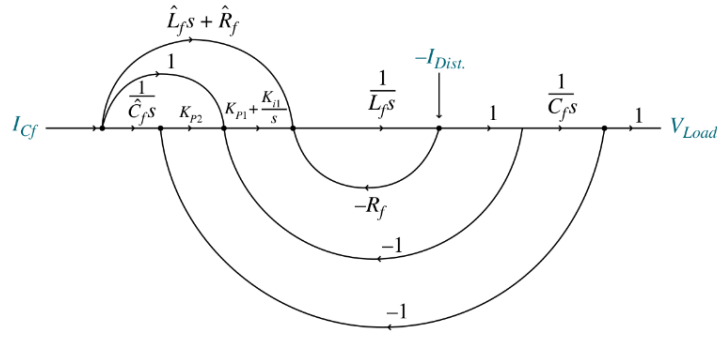

Figure 3: Hybrid solar cell and diesel power distribution system.
A model for Hybrid solar cell and diesel power distribution system proposed as shown in Figure 3, The system has been shown to have a very good uninterruptible power supply as well as line voltage regulation capabilities. The output V_{Load} , is the voltage across the load. The two inputs are I_{Cf} , the reference current, and I_{dist} , the disturbance representing current changes in the supply.
3.1 Referring to Figure 3, find $V_{Load}(s)/I_{Cf}(s)$ and $V_{Load}(s)/I_{dist}(s)$.